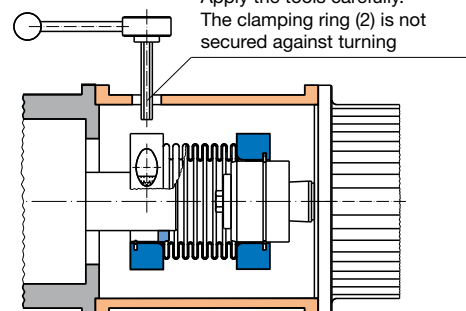

Fig. 8
– see also Fig. 6 and Fig. 8
2. Push the entire coupling over the whole length of the reducing bushing (5) onto a shaft.
– see also Fig. 7 and Fig. 8
1. Remove the clamping ring (2) with the protruding reducing bushing with tapered bore (6) from the coupling.
3. Push the reducing bushing with tapered bore (6) onto the conical shaft.
4. Secure the reducing bushing with tapered bore (6) using a nut or screw with press cover.
5. Push the rest of the coupling with the open steel bellows side up to its limit between the clamping ring (2) and reducing bushing with tapered bore (6).
6. Tighten the cap screw (4). The screw tightening torque (see Technical Data, page 4) must be observed.
7. Push the second shaft over the entire length of the reducing bushing (5) into the coupling.